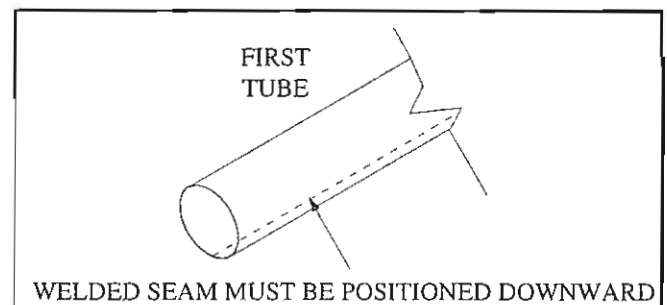
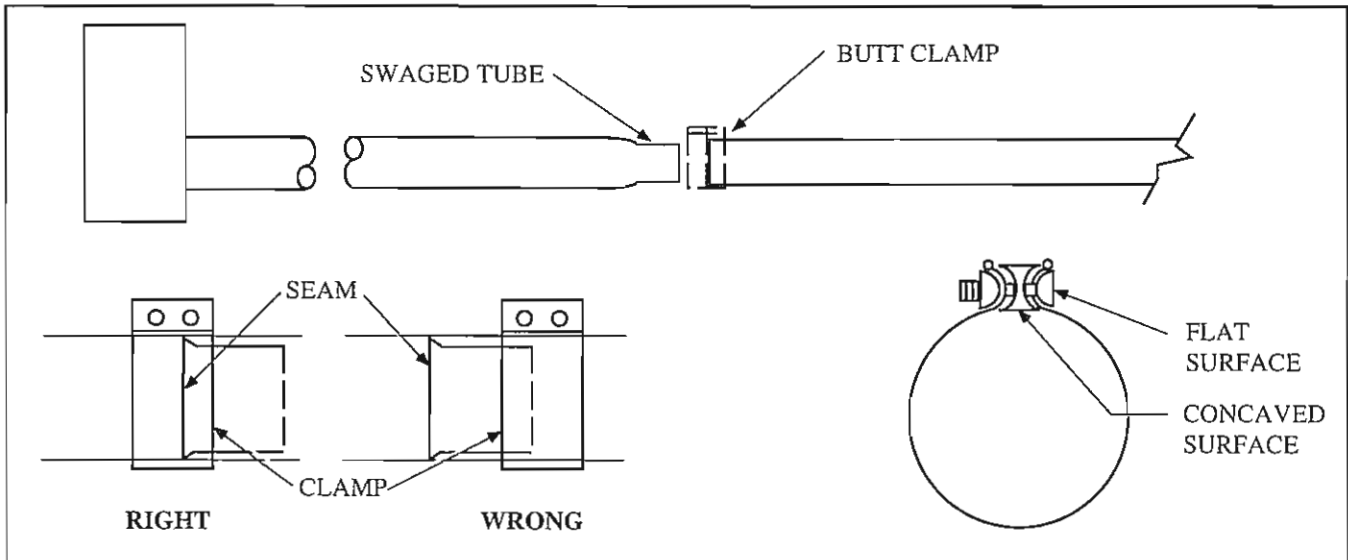

Figure 1-10
Figure 1-11
- Mount hangers on approximately 10-ft centers. Slide tubes through hangers with weld seam downward (see Figure 1-10) and fasten with butt clamps (see Figure 1-11). Center clamps on seams.
**NOTE:** The butt clamps provided with the heater are pre-assembled at the factory. If a clamp is dismantled, it is important that upon reassembly the spacer is properly inserted (see Figure 1-11). The spacer's concave surface **must** face the radiant tube. Incorrect spacer placement will result in shearing of the bolt when torqued to the recommended specifications (50 – 70 lb-ft).